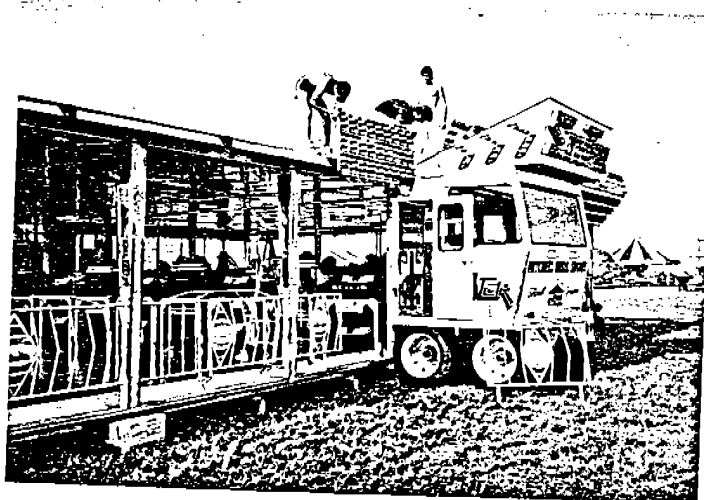

FIGURE 15
1. **INSERT SCENERY PANELS** into edge of catwalk starting at front with A-1 or B-1. Proceed in numerical order. (See Figure 15).